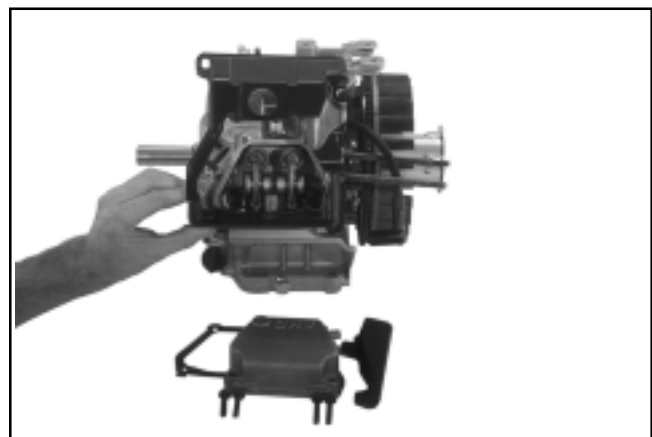

Figure 9-38. Valve Cover, Gasket, and Air Shroud Removed.
2. Remove the valve cover and gasket from the cylinder head. See Figure 9-38. The breather assembly is inside the valve cover.